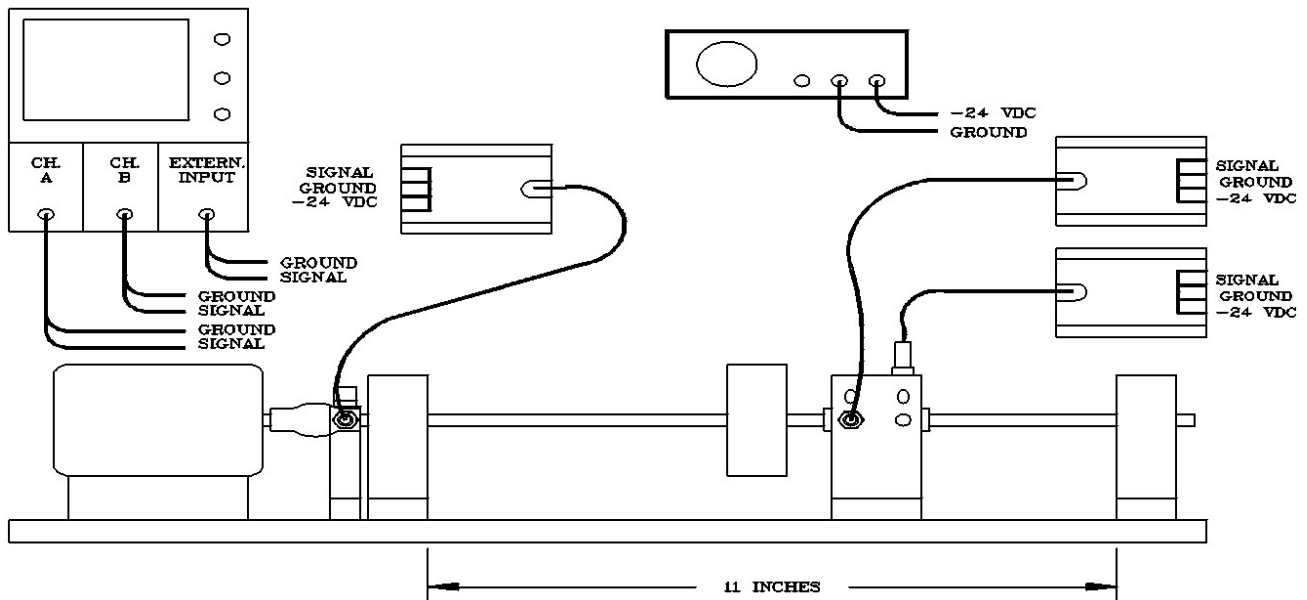

Fig. 6.1
Assemble the demonstration rotor using two (2) sleeve bearing assemblies, one rotor mass as shown in Figure 6.1. Install the phase transducer mount so that the transducer observes the notch in the coupling. Attach the accelerometer in the vertical orientation on the outboard bearing assembly and install the vibration transducers in the vertical and horizontal positions.